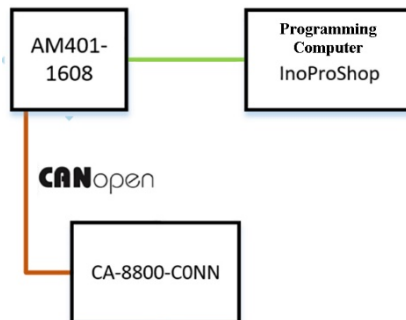

Fig. 5-6-9 Communication Link Diagram
1. See Fig. 5-6-9 for the communication link diagram.